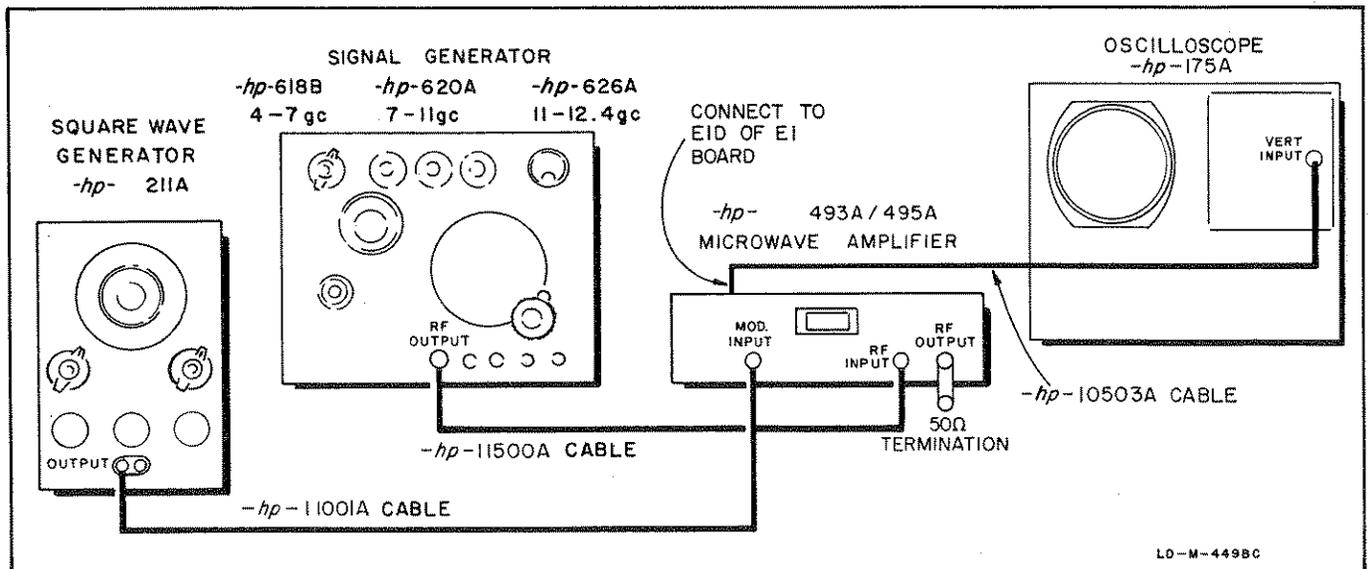

Figure 5-6. Frequency Response Setup
- a. Connect the Model 493A/495A as shown in figure 5-6.